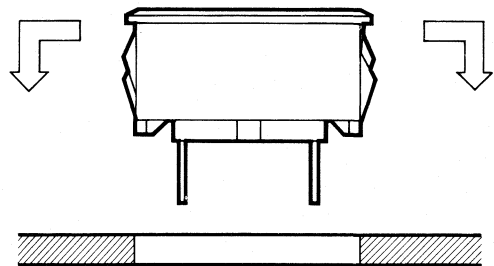

Figure 2. Installation of the Light Bar/Panel Mount Assembly into a Front Panel
3. Applying even pressure to the top of the mount, press the entire assembly into the hole from the front of the panel[5]. (See Figure 2)